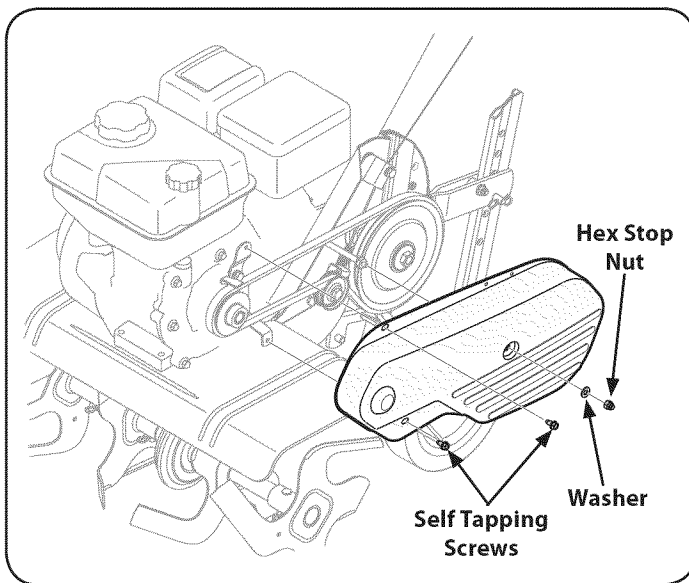

Figure 26
1. Remove the belt cover from the left side of the tiller by removing the two self tapping screws and hex stop nut and washer. See Figure 26.